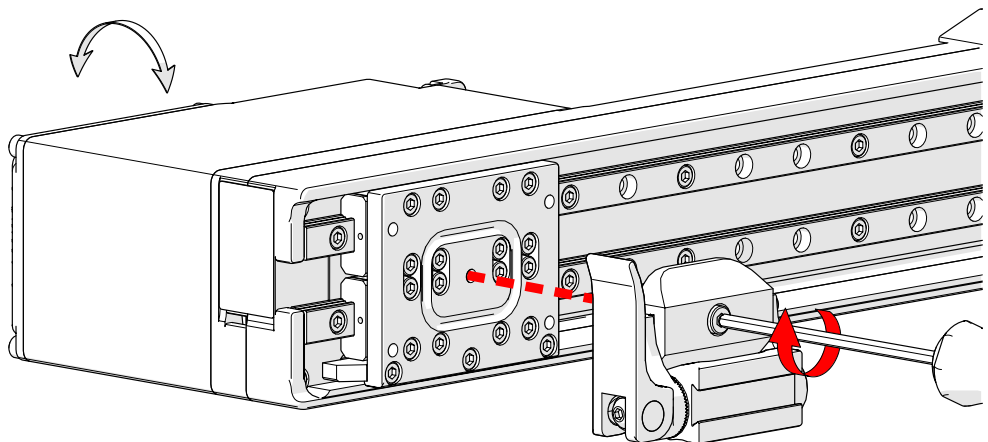

Fig. 155 - Attach the pivot nose to the carriage
- 14.** Attach the pivot nose to the raster arm carriage (Fig. 155).